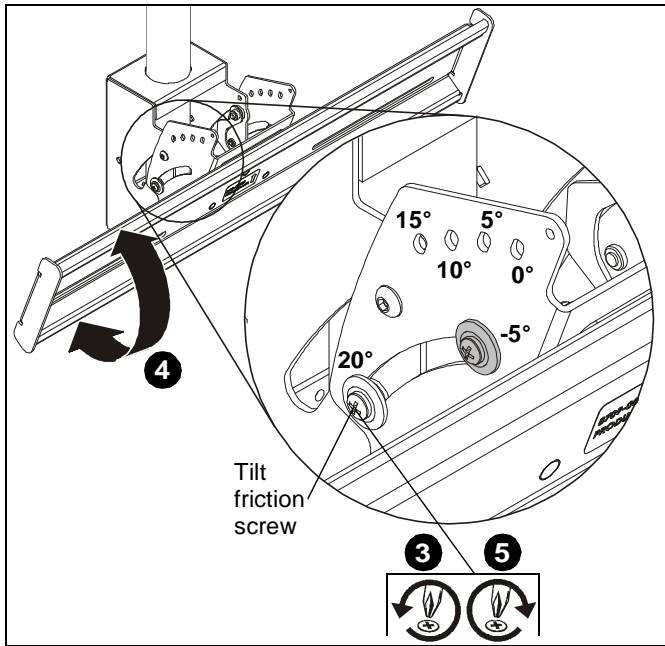

Figure 11
3. Loosen two tilt friction screws (located each side). (See Figure 11)
4. Adjust tilt as required. Note specific degrees of tilt. (See Figure 11)